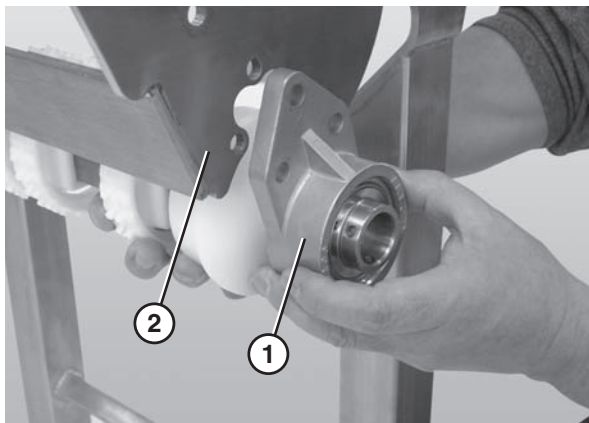

Figure 66
7. Disconnect the 3 hole flange bearing (**Figure 66, item 1**) from the nose bar drive weldment (**Figure 66, item 2**).